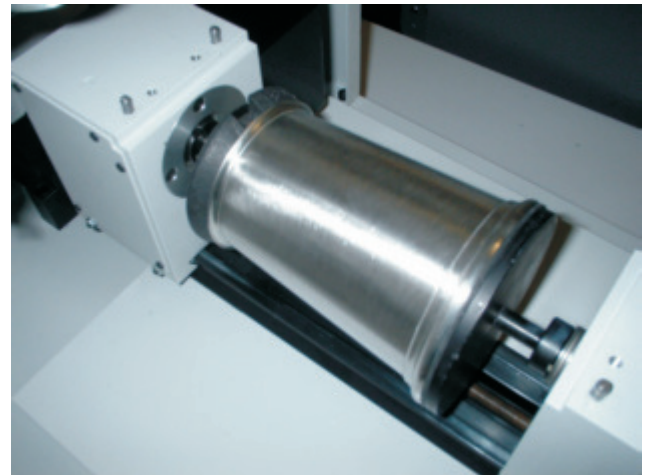

Figure 10
- 9 Now insert the tankard into the vice as shown in Figure 10. The vice should only be tightened enough so that the tankard does not slip around, when moved. Over tightening, can damage the tankard and in extreme circumstances the machine